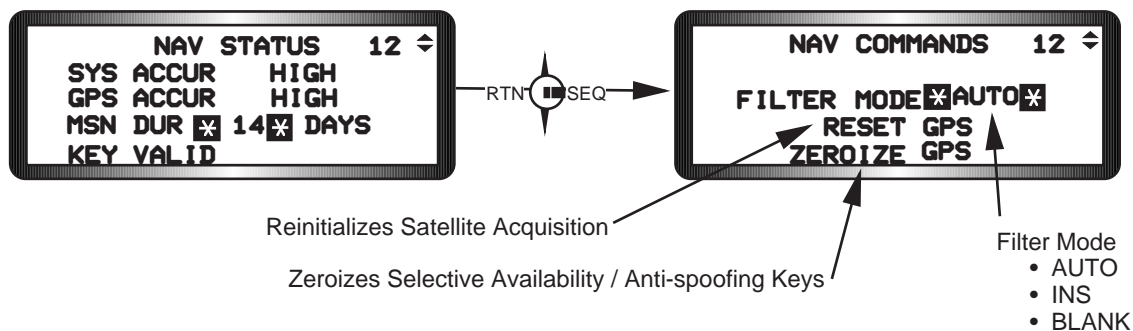

Figure 2-30 Navigation Commands Page
**Navigation Commands.** The NAV COMMANDS page (Figure 2-30) allows the pilot to select a navigation filter mode and to reset or zeroize the GPS, if required.